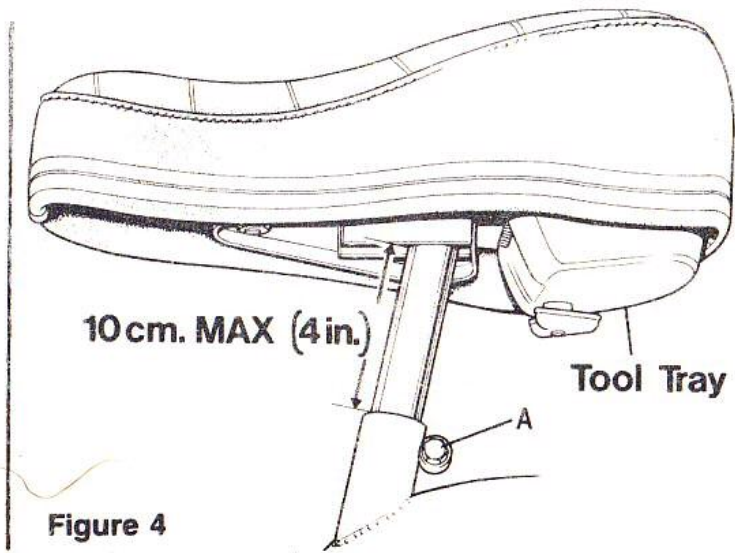

Figure 4
Seat height is adjustable by slackening nut (A) as shown in Fig. 4 and working the seat pillar up and down to achieve the desired height. The seat pillar must not be extended beyond 10 cm (4 ins) from the frame. Ensure that the seat is 'straight' in relation to the frame and tighten the nut (A). Normally it is recommended that the seat height is such that with the moped on its wheels, the rider may sit with both feet flat on the ground, knees slightly bent.